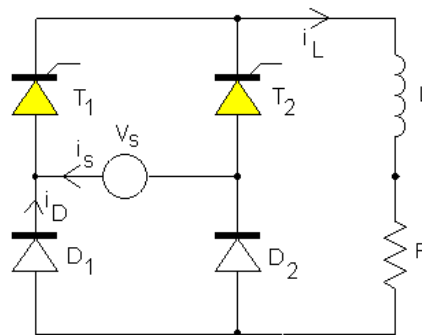
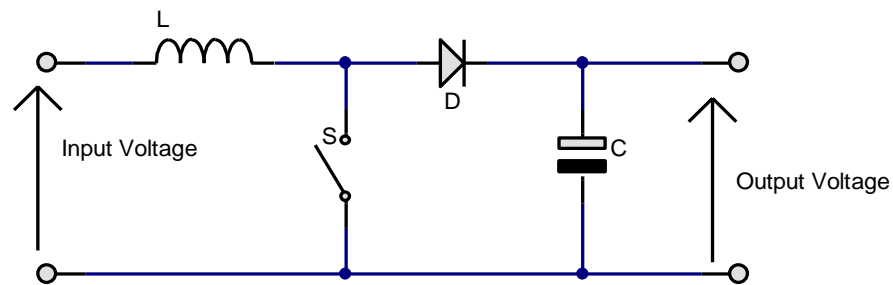

Figure 1
Figure 2
1. a. With reference to suitable voltage and current waveforms, explain the operation of the circuit shown in figure 1 below. Derive an expression for the average output voltage (across the resistor and inductor) for the circuit. (8)
- b. The circuit in figure 1 is to supply a load in an electroplating tank with 400A dc from the low voltage secondary output of a 50Hz single phase transformer rated at 12Vrms. Calculate the firing angle for the devices given that the circuit needs to develop 8Vdc across the load to give the rated load current. (4)
- c. If the diodes were to be replaced by thyristors in the above circuit, what firing angle would be required to maintain the output conditions, assuming continuous current in the load? (4)
- d. What is the minimum value of load inductance which would ensure the continuous load current conditions to be met for the converter in part 'c'? (4)
2. a. Derive from first principles a relationship between the input and output voltage for the converter shown in figure 2 below. You should include all steps taken, and show graphs of voltage and / or current, as necessary, to explain the operation for the circuit. (8)
- b. Given that the above circuit has an input voltage of 5V, and would be operated with a duty cycle (δ) of $2/3$, calculate the output voltage. (2)
- c. If the circuit was to supply a load current between 50mA and 200mA, and operate at 40kHz, give a suitable inductor value for the circuit (3)
- d. Calculate the required capacitor value necessary to ensure the output voltage ripple doesn't exceed 1%. (3)
- e. Justify your choice of switching device for the circuit, giving the necessary device voltage and current ratings (2)
- f. What factors affect the choice of diode for the circuit in figure 2 above (2)